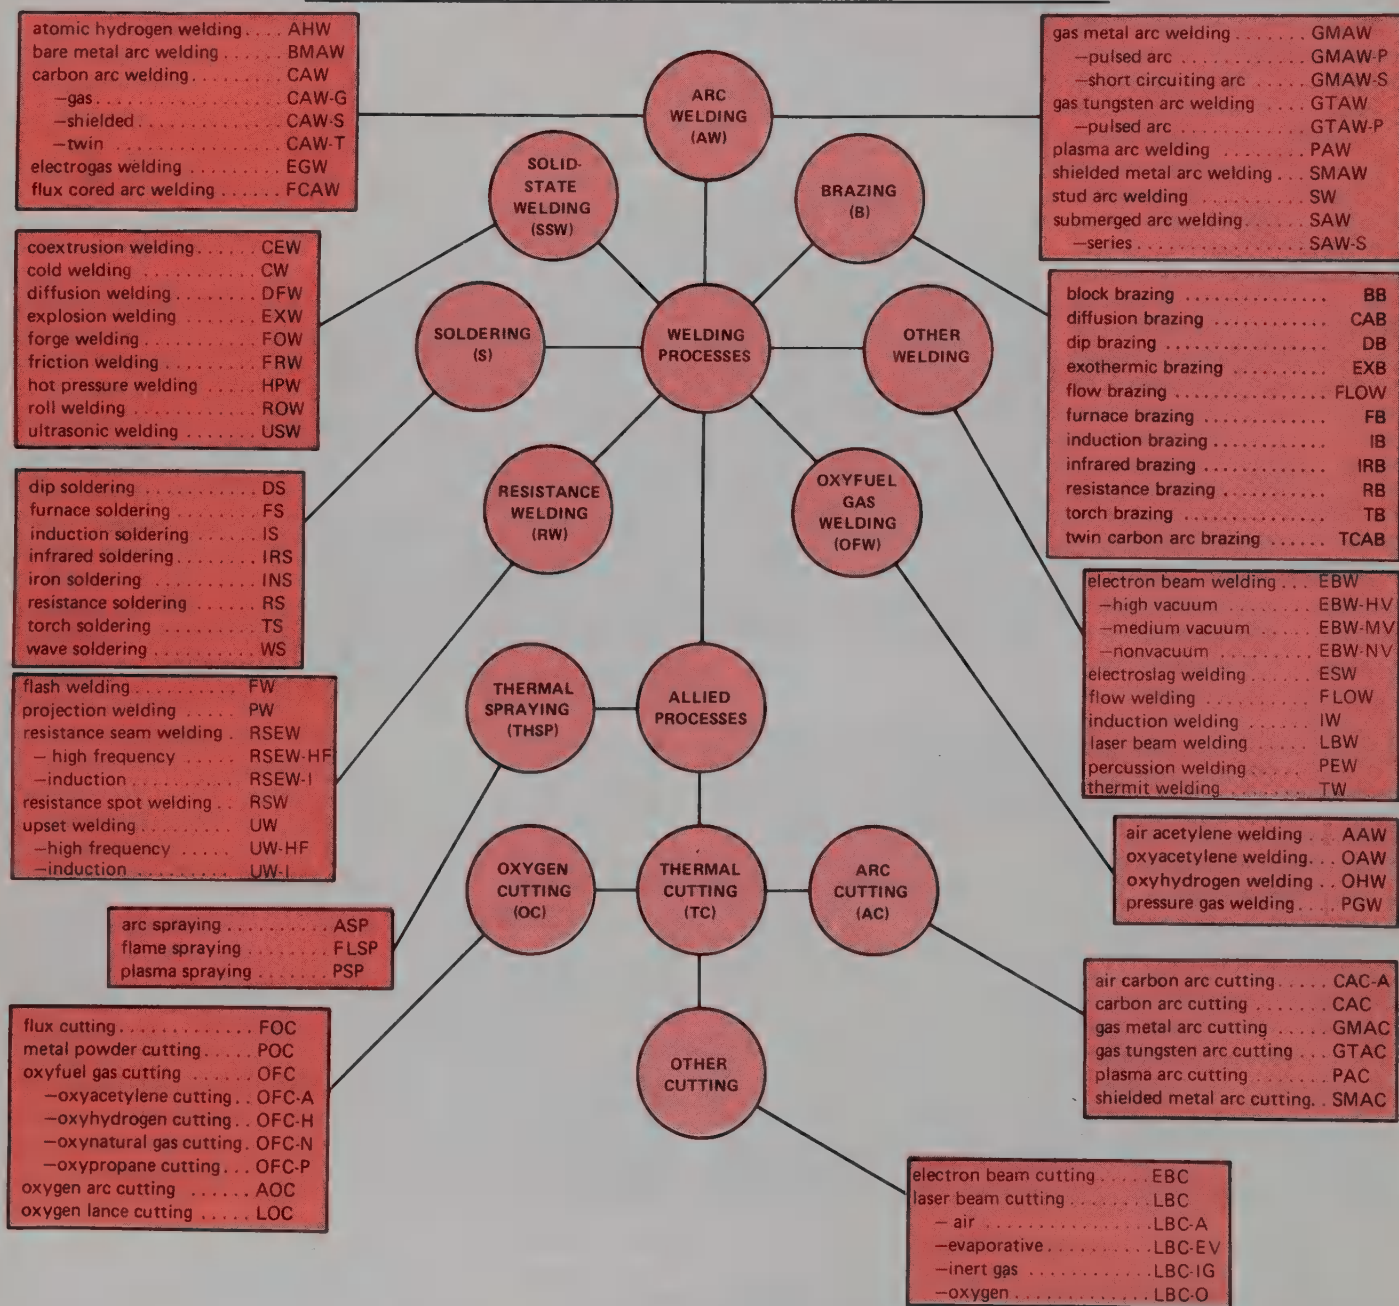

Fig. 1-6. Welding and cutting processes as defined by the American Welding Society (AWS).
1990—A total of 94 welding and cutting processes are in use with a variety of energy sources and shielding gases. American Welding Society (AWS) approved names and abbreviations are shown in Fig. 1-6.
8. Refer to Fig. 1-6. Give the correct name for the SMAW process.
9. Refer to Fig. 1-6. What AWS abbreviation is used for oxyacetylene welding?